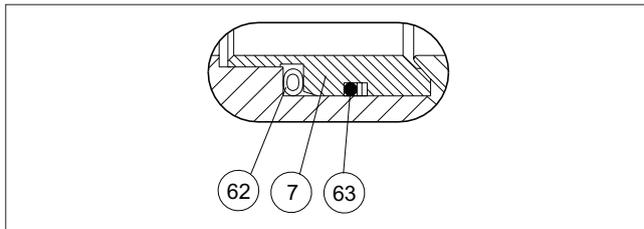

Fig. 25 S-seat
- Place the valve body (1) and the body cap (2) on the pipe flange end. Use a level surface that will not scratch the flange sealing surfaces.
- Place the back seal (O-ring) (63) into the groove in the seat. See Figures 25, 26, and 27 .